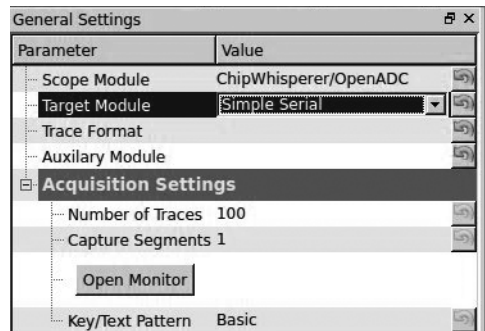

Figure 8-10: Setting the Scope and Target types
1. In ChipWhispererCapture, go to the General Settings tab and set the Scope Module to **ChipWhisperer/OpenADC** and the Target Module to **Simple Serial**, as shown in Figure 8-10.